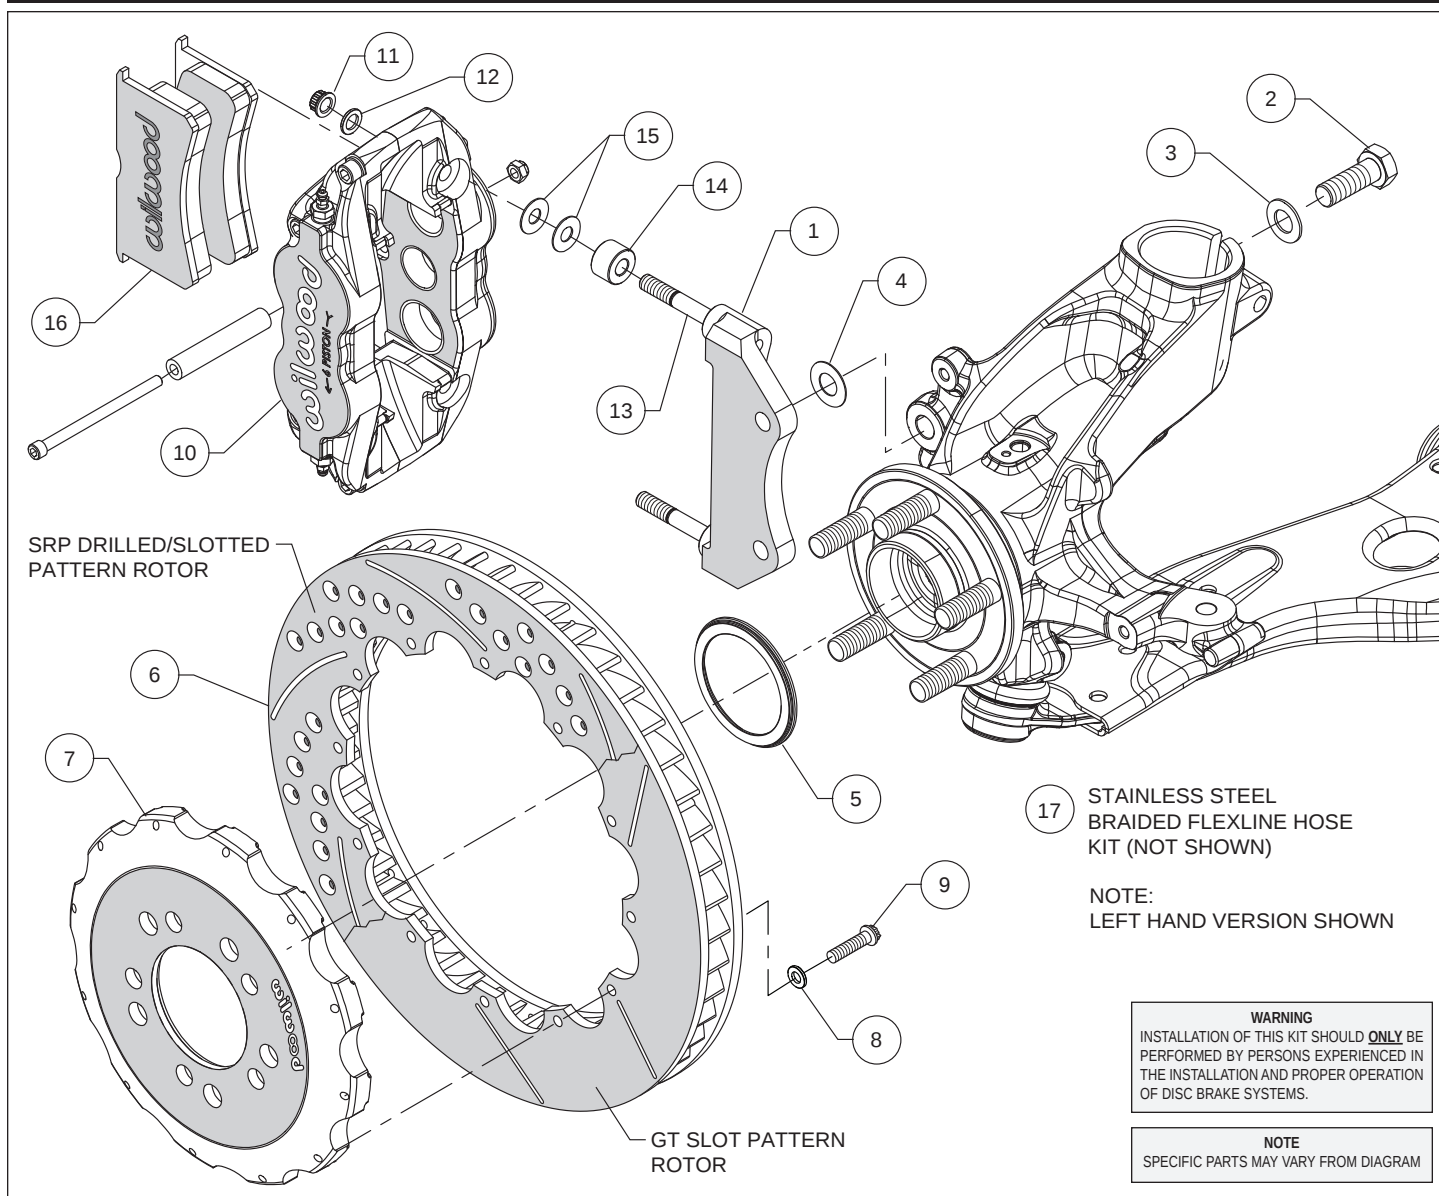
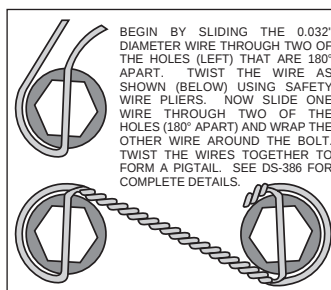

Figure 1. Typical Installation Configuration
Figure 3. Safety Wire Diagram
Assembly Instructions (numbers in parenthesis refer to the parts list and Figure 1 on the preceding pages):
- The caliper mount bracket (1) should initially be installed with clean, dry threads on the mounting bolts. Orient the bracket as shown in Figure 1 and Photo 1, and install using washers (3) and bolts (2). Initially place one .029 thick shim (4) on each bolt between the bracket and upright, Figure 1. Temporarily tighten the mounting bolts. **NOTE:** *The bracket must fit squarely against the mount bosses on the upright.* Inspect for interference from casting irregularities, machining ridges, burrs, etc. Later, after the caliper alignment has been checked, the mount bolts will be secured using red *Loctite*® 271.
- Orient the rotor (6) and the hat (7) as shown in Figure 1 and Photo 2. Attach rotor to hat using bolts (9) and washers (8). Using an alternating sequence, apply red *Loctite*® 271 to the threads, and torque to 155 in-lbs. For an added measure of security, the bolts may be safety wired using standard 0.032 inch diameter stainless steel safety wire as shown in Figure 3. Please refer to Wilwood's data sheet DS-386 (available at www.wilwood.com/Pdf/DataSheets/ds386.pdf) for complete safety wire installation instructions.
- Slide the rotor registration adapter (5) onto the axle register on the axle hub with the smaller O.D. facing outward, Photo 3. Slide the hat/rotor assembly onto the axle hub. **NOTE:** *The hat must fit flush against the axle hub flange or excessive rotor run out may result.* Install three lug nuts (finger tight) to keep the hat/rotor assembly in place while continuing with the installation.
- NOTE:** *This kit contains distinct right and left hand calipers that must be mounted in a specific direction, as described below.* Lubricate the caliper mounting studs (13) with lightweight oil. Initially place two .035" thick shims (15) and one spacer (14) on each stud as shown in Figure 1 and Photo 4. Mount the caliper (10) onto the bracket (1) using lock nuts (11) and washers (12), Figure 1. Ensure that the caliper is mounted so that the largest pistons are at the rotor exit end of the caliper, in relation to the direction of rotor rotation. Temporarily tighten the lock nuts and view the rotor through the top opening of the caliper. The rotor should be centered in the caliper, Photo 5. If not, adjust by adding or subtracting shims (4) between the bracket and the upright. Always use the same amount of shims on each of the two mounting bolts. Once the caliper alignment is correct, remove the bracket mounting bolts (2) one at a time, apply red *Loctite*® 271 to the threads, and torque to 60 ft-lb.